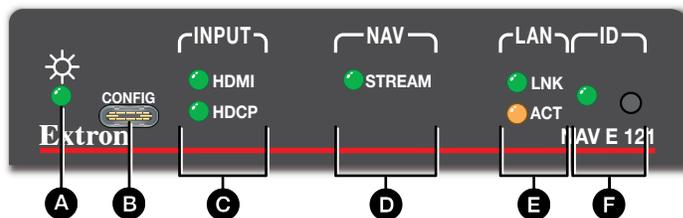

Figure 7. Encoder Front Panel Features
- C INPUT LEDs** (see figure 7 on page 10) — Indicate status of the signal input, as follows:
The encoder can be controlled and operated through either the front panel Configuration (USB) port (see figure 7, **B** on page 10) or the rear panel NAV 1G/PoE+ port (see figure 2, **D** on page 5). The Configuration port uses IP over USB technology. The factory-embedded HTML pages are always available and cannot be erased or overwritten.